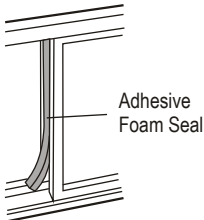

Fig. 12
4. Cut a third piece of Adhesive Foam Seal to the appropriate length to seal any gap between the window sashes (Fig. 12).